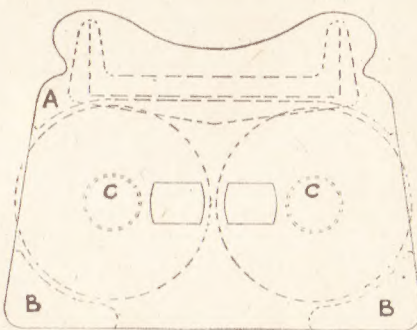

Fig. 3—Outline of back with windows
Both front and back pieces are identical in outline, but in the front piece two 'windows' (C, Fig. 3) will be cut out; these allow the figures to be seen as the discs are turned. When the spacing pieces (A) and (B) are cut and their edges cleaned off they must be glued to the back upright in the positions shown by the dotted lines.